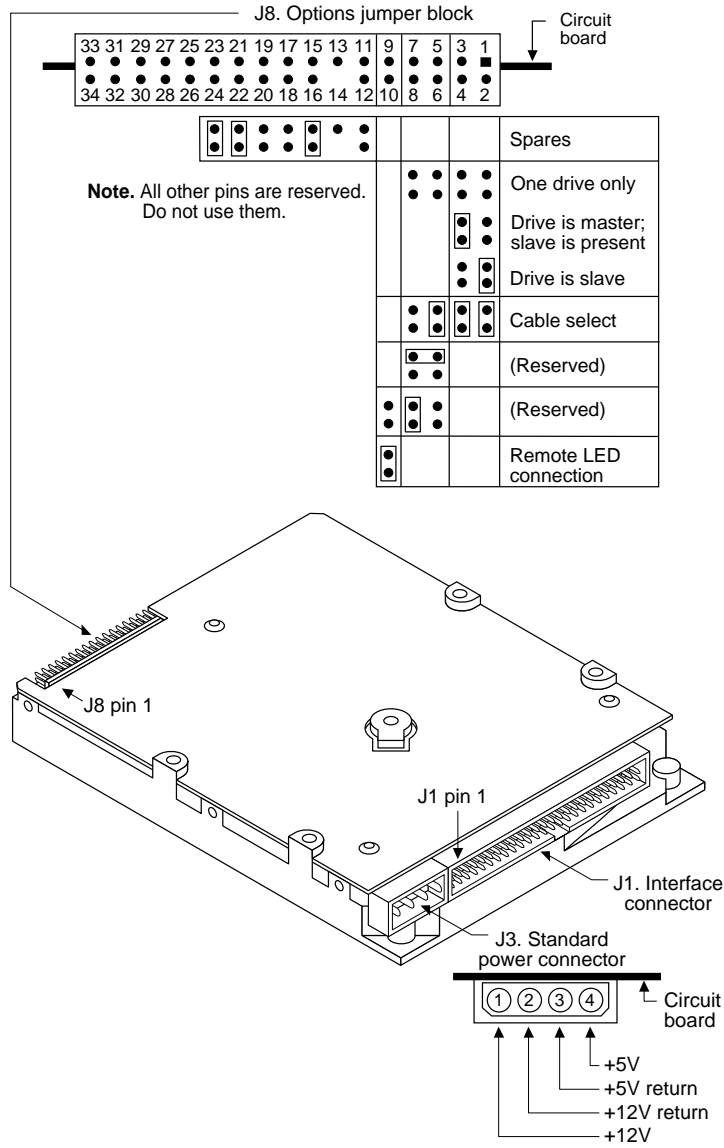

Figure 3. Configuration jumpers
You can connect two drives to a daisy-chain cable if both drives meet the same interface specifications. In a dual-drive configuration, one drive is designated as the master (drive 0) and the other as the slave (drive 1). See Figure 3 on page 16 for jumper settings.
- Install jumpers on pins 1 and 2, pins 3 and 4, and pins 5 and 6 of the options jumper block shown in Figure 3.